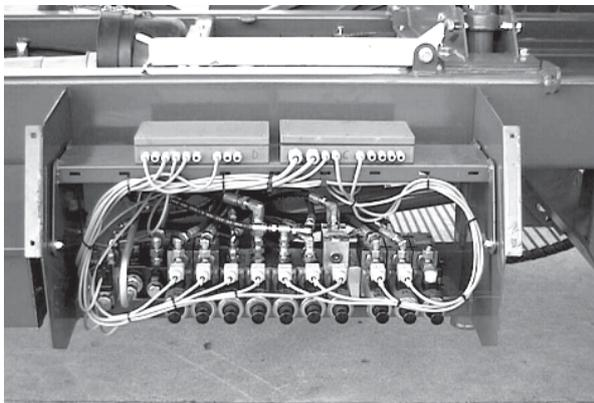

Fig. 29-2
- Driver unit fitted on the machine (Fig. 29-2)